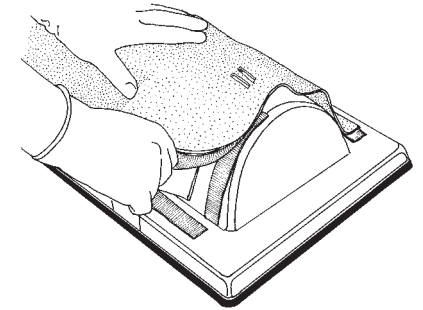

fig 4
3. To gain access to the vein suspension tube, release the skin by separating the velcro strips on the side and front of the trainer **figs 4 & 5**.